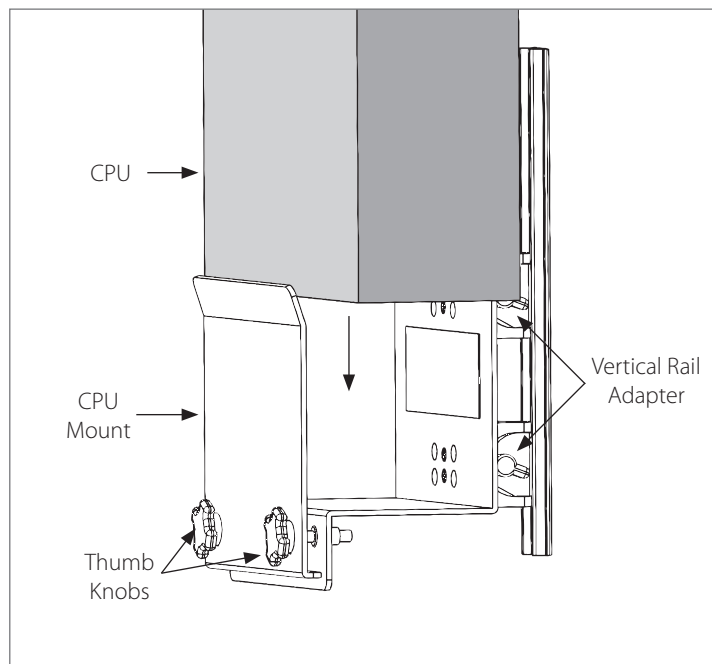

Figure 1
2. Mount the CPU mount to the VRS (refer to mounting of AHM Arm to the VRS channel for instructions on how to install Mounting Adapter to the VRS (Refer to Page 10 for installation) **(Figure 1)**).